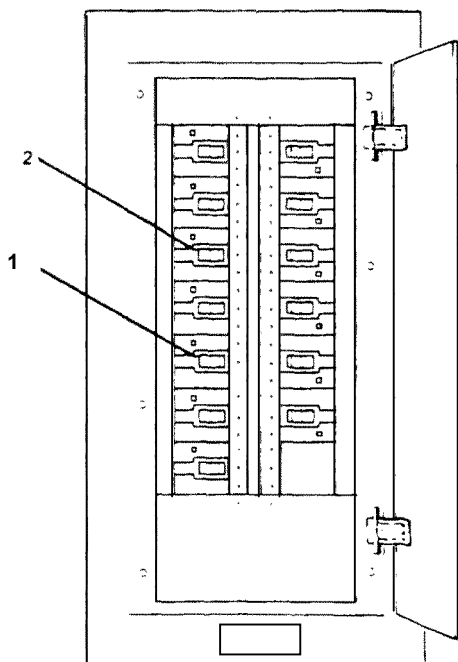
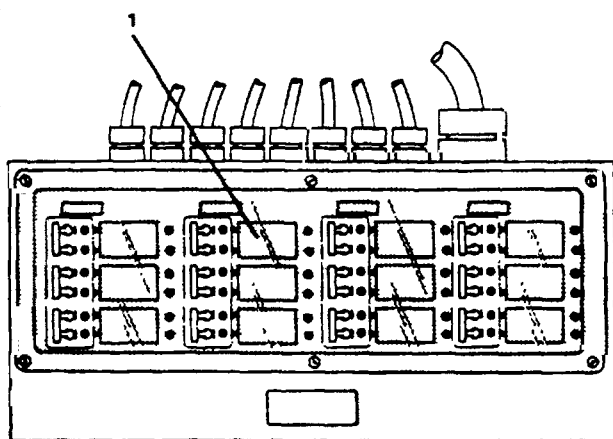

Figure 2-151. Engine Room Power Panel No. 1.
Figure 2-152. Machinery DC Distribution Control Panel.
(10) Engine room power panel No. 1 (Figure 2-151). Set following circuit breakers to ON position:
- (a) #1 M.E. CONTROL PANEL (2).
- (b) #2 M.E. CONTROL PANEL (1).
(11) Machinery DC distribution control panel (Figure 2-152). Set MACHY MNTR SYS circuit breaker (1) to ON position.